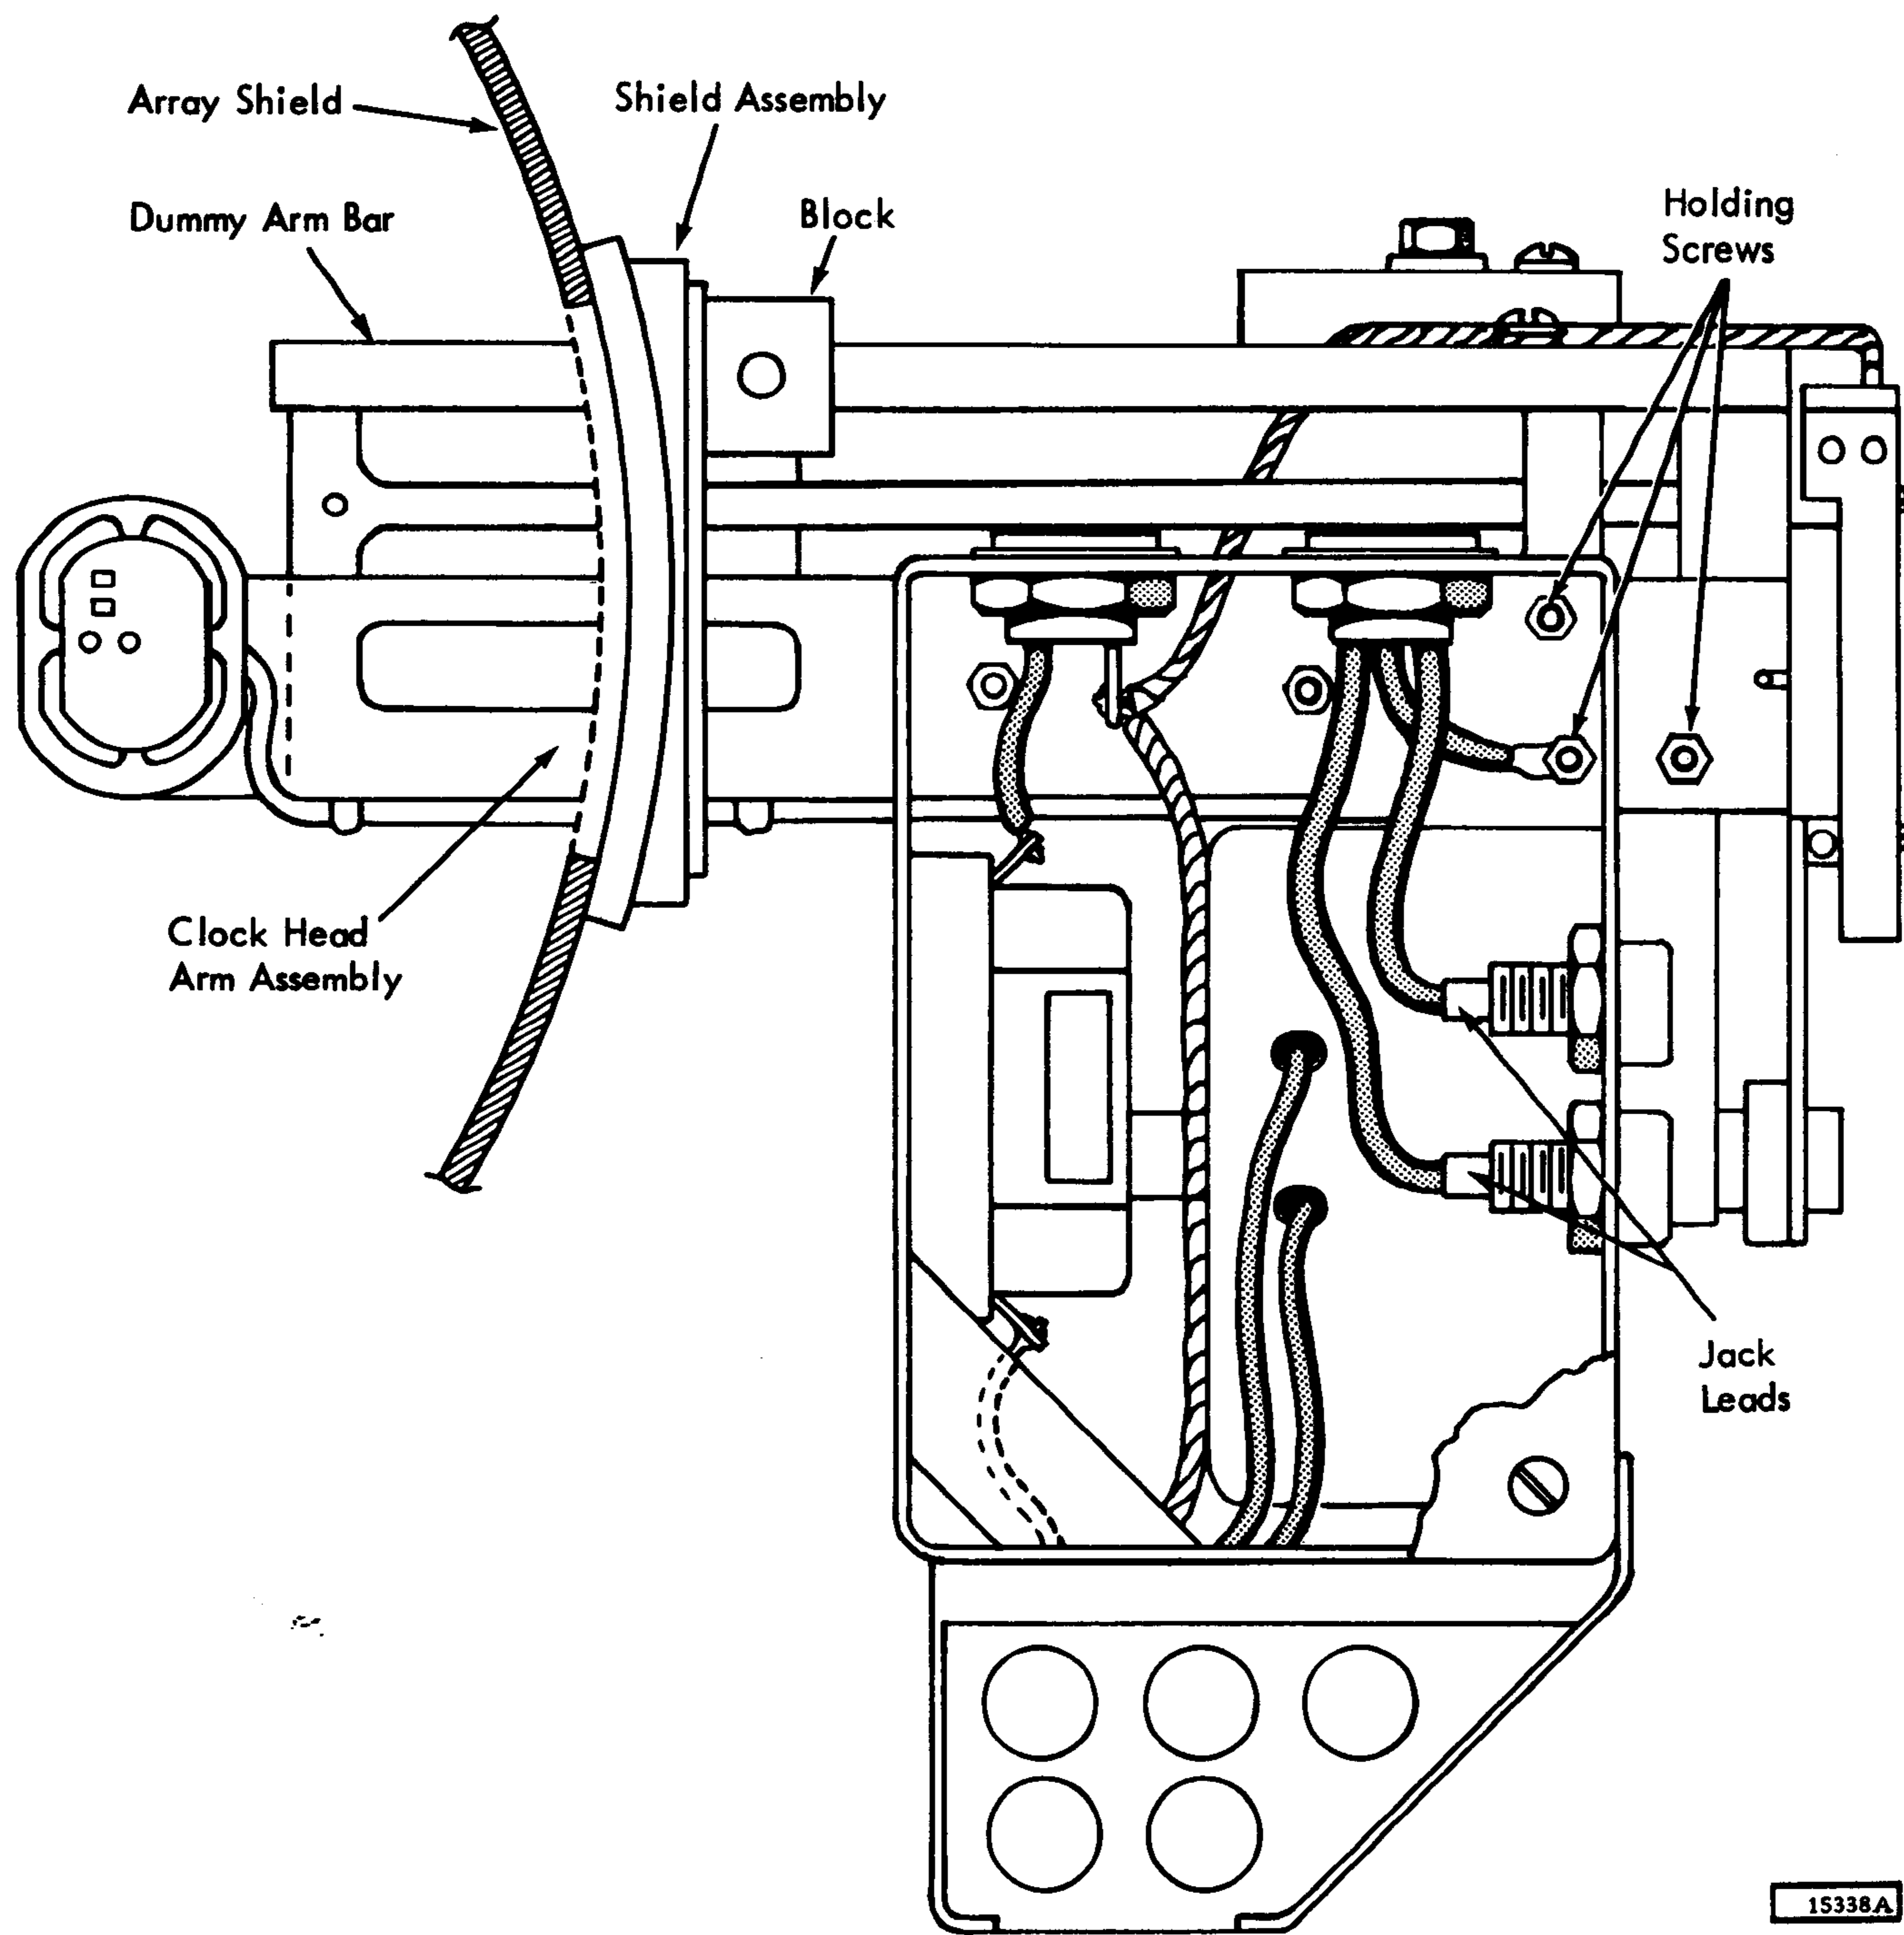

Figure 4-27. Clock Head-Arm Assembly
3. Remove seal assembly (Figure 4-27).
4. Mount shield assembly retaining plate and block on dummy bar as shown in Figure 4-27. After full contact is made with shield, slide retaining plate forward approximately $1/16$ -inch and lock in place.
4.10 CLOCK-HEAD ARM ASSEMBLY (Figure 4-27)
6. Mount shield assembly (Figure 4-27) according to procedures in section 4.3.4.